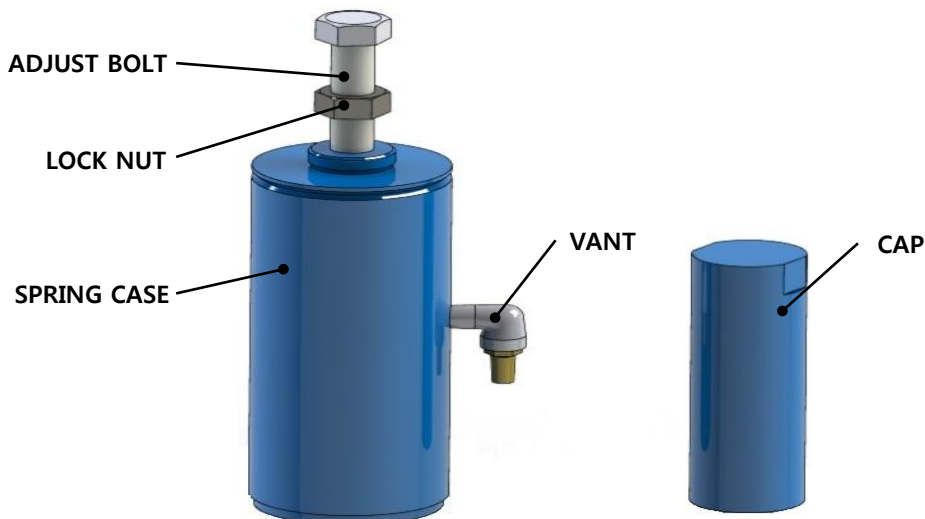

Figure 3. Spring Case, Adjust Bolt, and Cap
1. Unscrew and remove the actuator cap from the top of the spring case. (See Figure 3)
1. Remove the cap and the spring load by unthreading the adjust bolt. See Figure 3.
3. Disassemble the diaphragm, lower spring seat, diaphragm plate, diaphragm holder by unthreading the diaphragm lock nut from the diaphragm connector (key28).